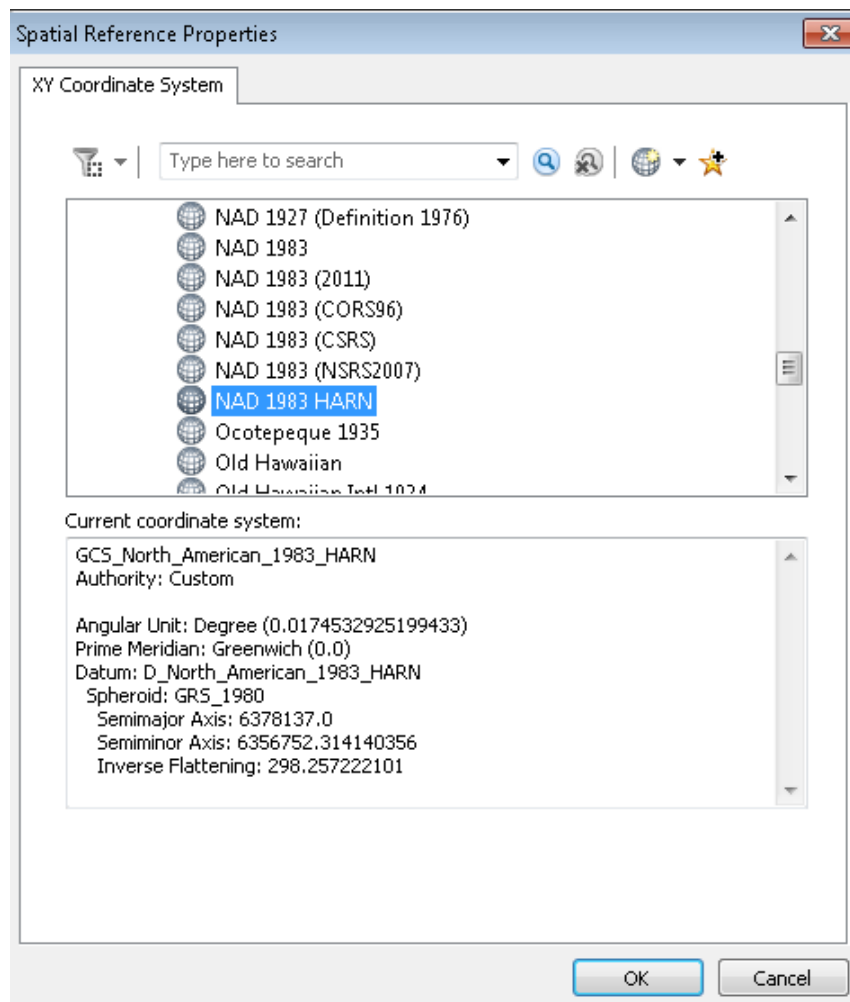

Figure 5. Defining the coordinate system of the hazardous material sites shapefile
- 6 Click *Coordinate System of Input Coordinates » Geographic Coordinate Systems » North America » NAD 1983 HARN* (figure 5).